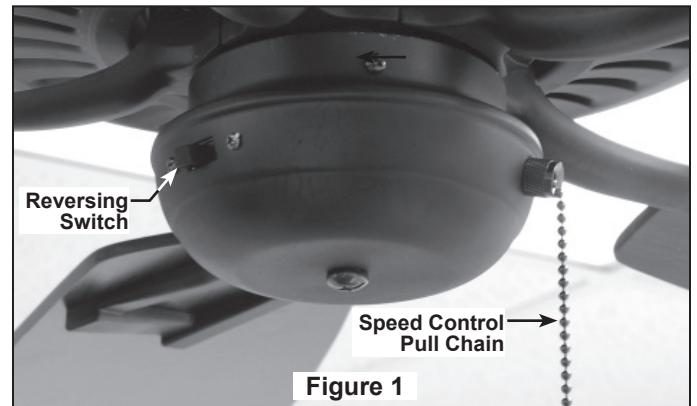

Figure 1
2. Check the operation of the fan by gently pulling on the pull chain switch. (Figure 1)